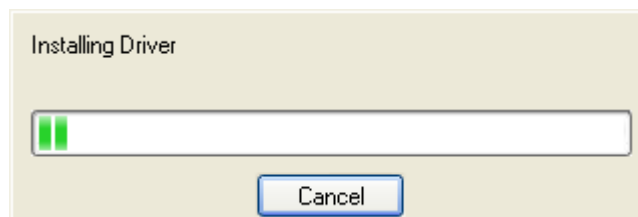

Figure 7-16: VGA Driver Installation Progress
Step 16: The driver begins to install and the progress screen in **Figure 7-16** appears.